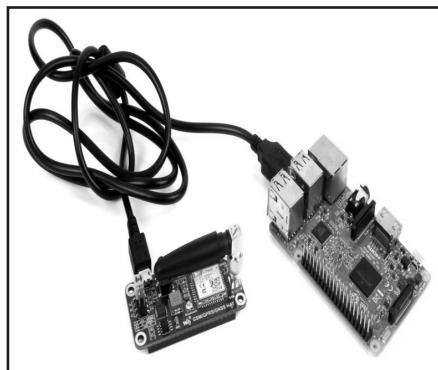

Fig. 4.9: Interfacing GSM module to Raspberry pi using USB cable
- Below Fig. 4.9 shows interfacing of Raspberry Pi and GSM module through micro USB cable.
- Insert a SIM card into GSM modem and connect it to Raspberry Pi using USB cable as shown in Fig. 4.9.